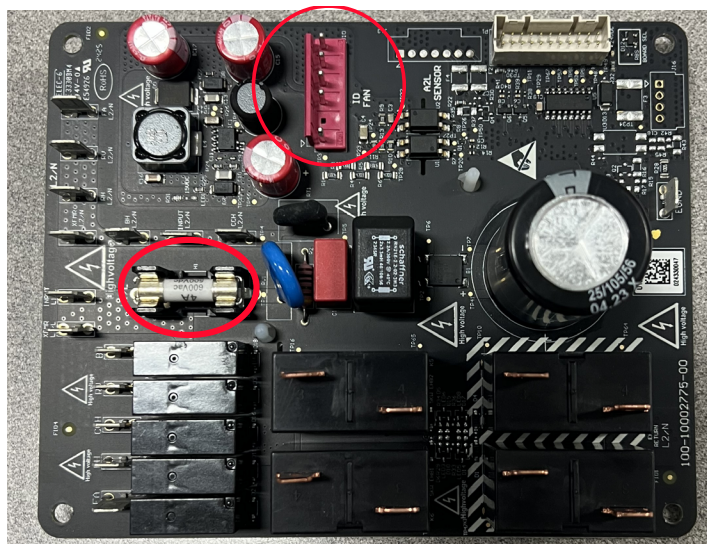

Figure 426 (Relay PCB)
3. Remove power from the unit and check the Relay PCB fuse. See figure 426.